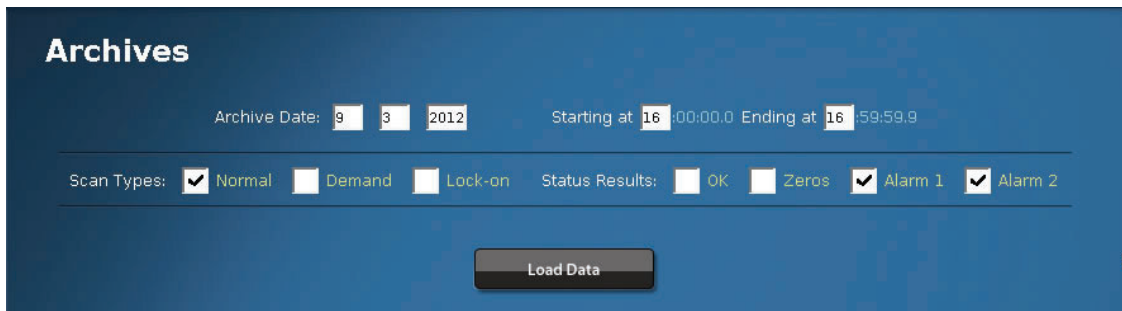

Figure 44. Archived view
When you select Archive View, the menu shown in Figure 44 display. Use the number keys on the keyboard to enter the desired date and the time interval. Next, choose any of the three Scan Types, and then the desired Status Results. The following rules apply to the Scan Types:
**Normal:** Scans collected in the normal scan mode. Generally, only the Alarm 1 and Alarm 2 normal scans are important to the user. Validate some of these Alarm 1/ Alarm 2 incidents by reviewing the spectra (or emailing spectra to Honeywell Analytics for review and comment). If you press “Load Data”, the data field (Figure 44) expands to include spectra when no incidents occurred. Narrow the time to a one-hour period to hide spectra when no incidents occurred.